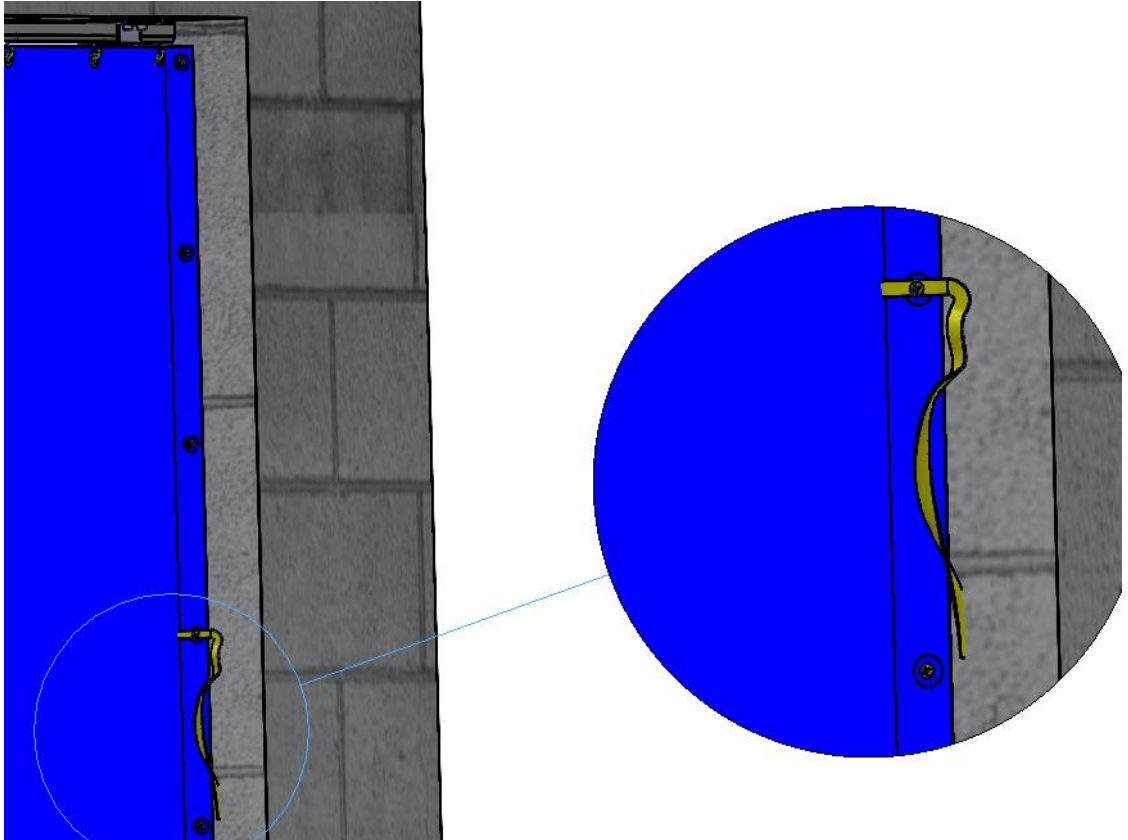

Figure 5 Install Tie-Back Strap
1. At the far end of the Curtain, thread a Tie-Back Strap through a grommet at about waist high. (Figure 5 Install Tie-Back Strap)